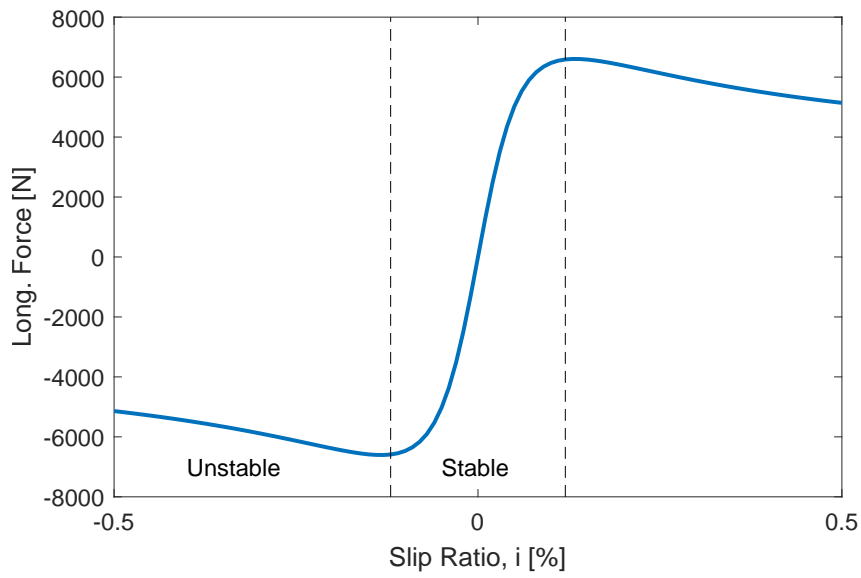

Figure 1 Longitudinal tire force.
- Formulate  $\omega_{des}$  as a function of the desired slip ratio  $i_{des}$ . (The slip ratio is defined in (2).)
- Define a slip reference value  $i_{des}$  for your controller. (Hint: You can use Figure 1 for this.)
Slip control is an alternative to ABS systems. ABS systems operate by reducing the braking pressure when the slip ratio approaches the unstable region, where if the braking force is kept constant the wheel will eventually lock (See Figure 1). In contrast, slip control systems control the slip ratio towards a desired value.
Figure 1 show how the longitudinal tire force depends on the slip ratio  $i$ , with the slip ratio defined as